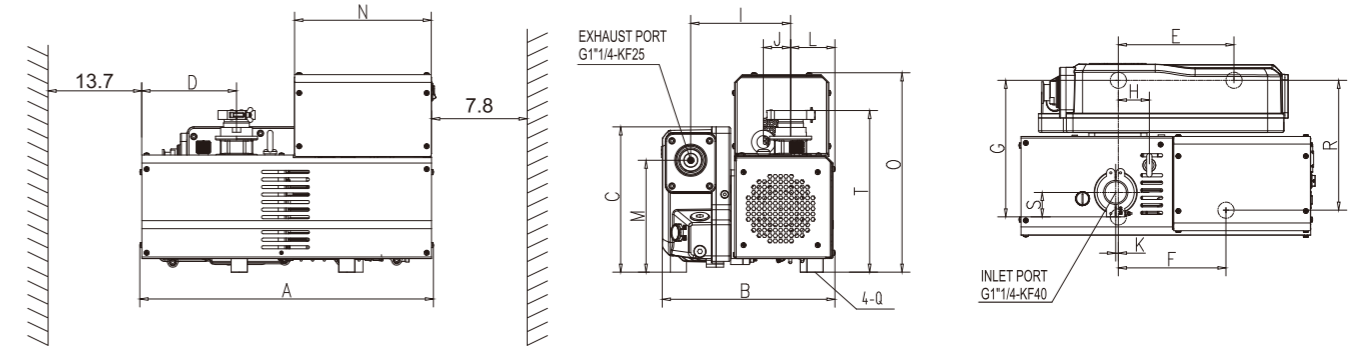

Fig.2
- (1) The oil level shall be always kept between position MAX and MIN of oil sight glass during operation (refer to Fig. 7). Add oil when the oil level is lower than position MIN and discharge oil by removing the oil drain plug (refer to Fig. 2) when the oil level is above position MAX.
- (2) Check the oil color. Replace the oil if the color is other than clear and transparent.
- (1) Change the oil when the pump is switched off and cooled down.
- (2) Remove the oil drain plug (Fig. 2) and drain the used oil into a suitable receptacle. When the flow of oil stops, screw on the oil drain plug and start the pump shortly (10 seconds). Switch off the pump, remove the plug again and drain the residual oil. Screw on the oil drain plug (Check O-ring, replace it if necessary). Remove the oil fill plug (Fig. 2) and fill in fresh pump oil which is specified or provided by the manufacturer.
- (3) After oil changing, handle the used oil stored in an assigned container according to local relevant environmental laws and regulations.